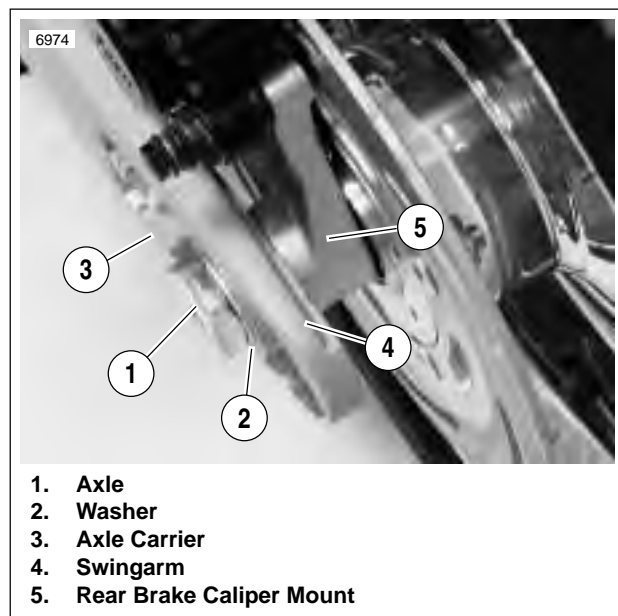

Figure 2-11. Axle, Left Side
- b. See Figure 2-11. Insert axle (1) through washer (2) so that rounded side of washer will face swingarm. Continue through axle carrier (3), left side of swingarm (4), rear brake caliper mount (5) and wheel assembly.